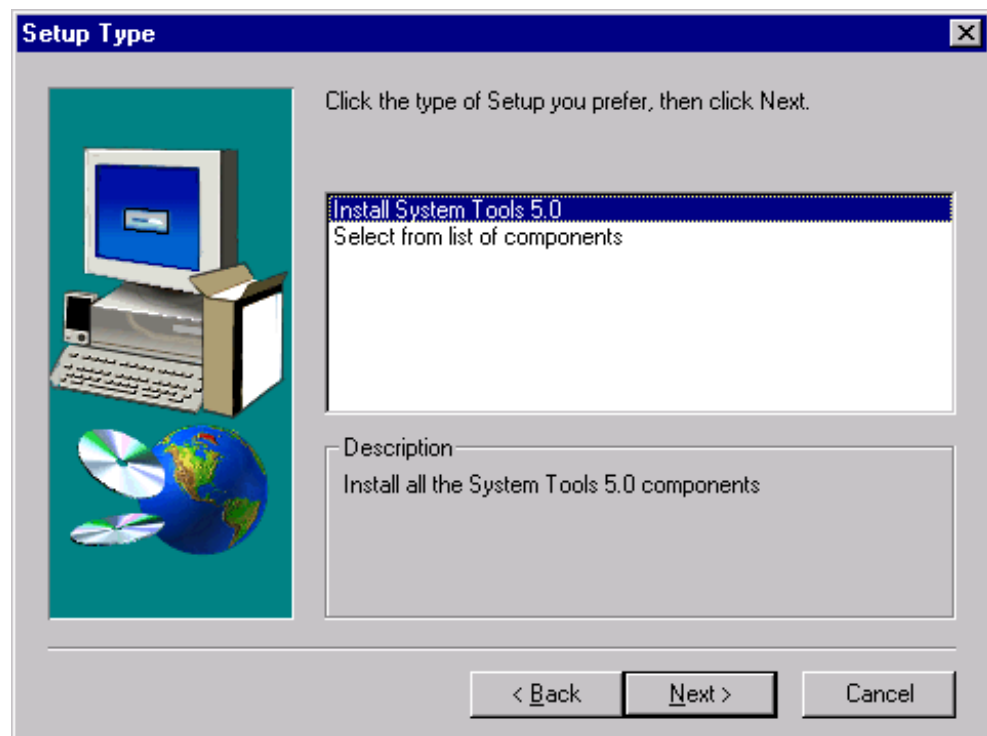

Figure 7: Setup Type Dialog Box
12. Click Next. The Setup Type dialog box appears (Figure 7).